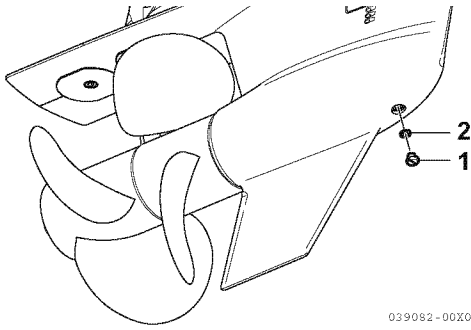

Figure 10
5. Remove the oil fill/drain plug (1, **Figure 10**) and gasket (2, **Figure 10**).